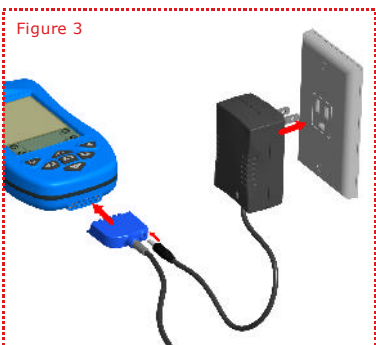

Figure 3
- Ensure your connection setup is the same as pictured in figure 3 left to commence charging.